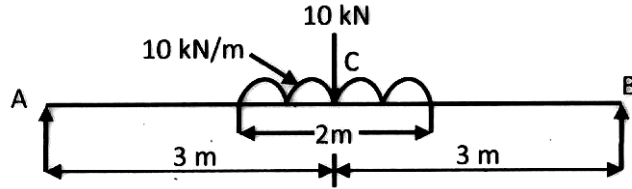

Fig. 2
- (b) A beam ABC is supported at A and B. The loading diagram for the beam ABC is as shown in Fig. 2. Construct the shear force and bending moment diagram. [8]